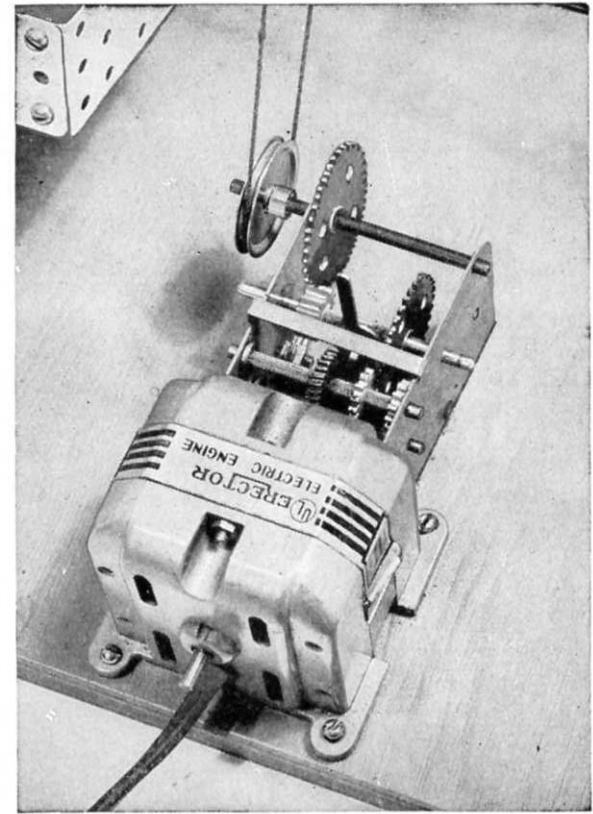

FIGURE 5
The power unit is an A-49 Electric Engine geared as shown in Figure 5. A P7-A pulley is fastened to an (AT) 4" axle. The power unit is fastened to the base as shown in Figure 1. A string for driving the model is fastened around the pulley on the power unit and around the large pulley on the 12" axle.